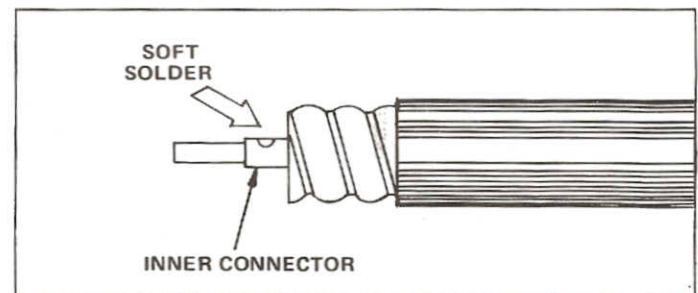

FIGURE 2
**STEP 2.** Remove surface oxides from inner conductor. Soft solder inner connector to inner conductor using soldering iron or gun. Use only enough heat to melt solder. Refer to Figure 2. Immediately after soldering, wipe away excess solder and cool connection with damp cloth. After cooling, clean connection with garnet cloth. Do not use emery cloth or steel wool.